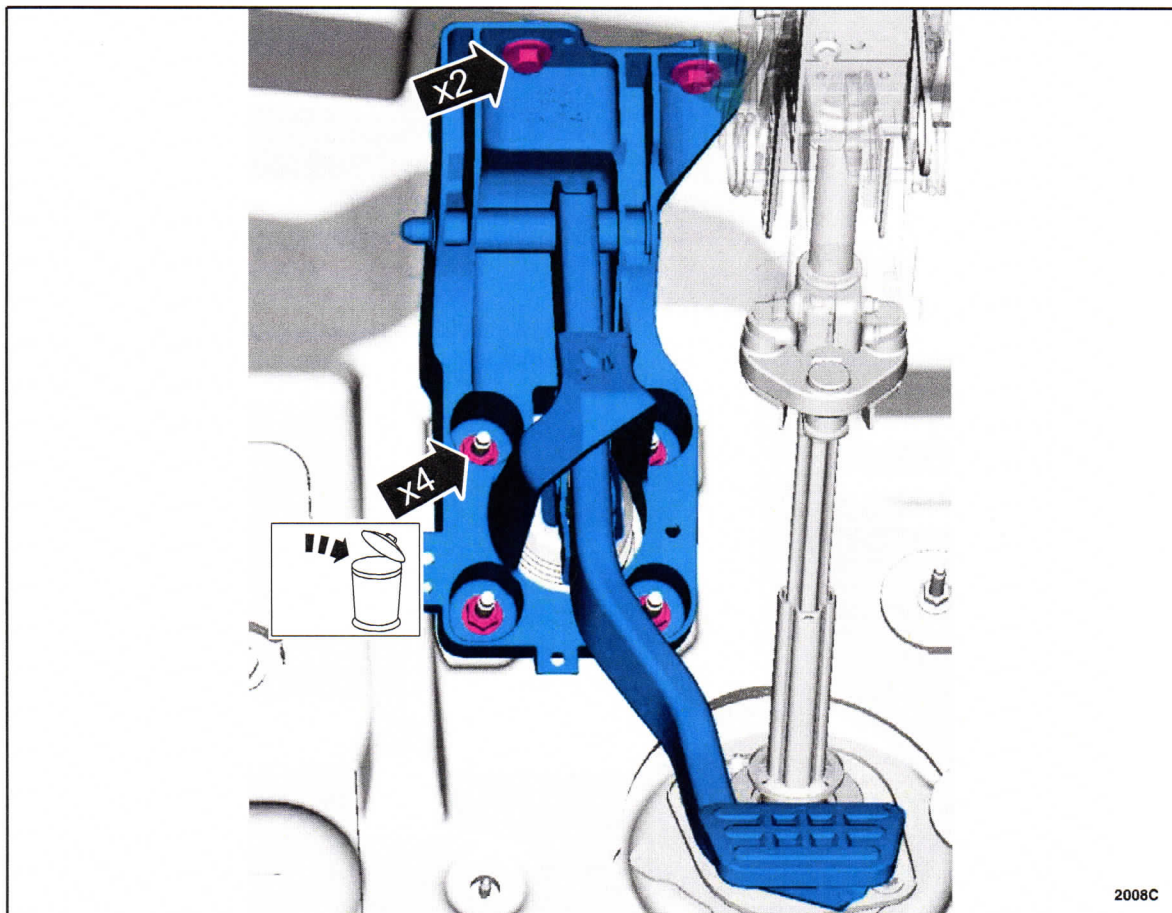

FIGURE 3
4. Remove the retainers, discard the 4 nuts and remove the brake pedal and bracket. See Figure 3.